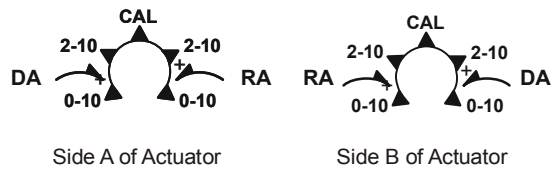

Figure 16: Mode Selection
The DMS24-180 Series Electric Spring Return Actuators are factory set for Direct Acting (DA) operation. In DA mode, applying an increasing input signal to the control input drives the actuator away from the spring return position. Reverse Acting (RA) operation is also available. In RA mode, applying an increasing input signal to the control input drives the actuator toward the spring return position. Figure 15 and Figure 16 indicate how the drive direction for the actuator depends on the spring return direction and the position of the mode selection switch.
The DMS24-180 Series Electric Spring Return Actuators are factory set at Direct Acting (DA), DC 0 to 10 V control input (Figure 16). To change to RA operation, move the mode selection switch from DA to RA. The DC input signal is selectable from DC 0 to 10 V or from DC 2 to 10 V, which corresponds to 0 to 95° rotation. If the rotation range is reduced, the end-stop is reached with a reduced input signal. For example, if a DC 0 to 10 V input signal is selected and the rotation range is limited to 75°, the end-stop is reached at DC 8.3 V. If an external 500 ohm resistor is placed across the input (see Figure 10), the switch positions then select between 0-20 mA or 4-20 mA.